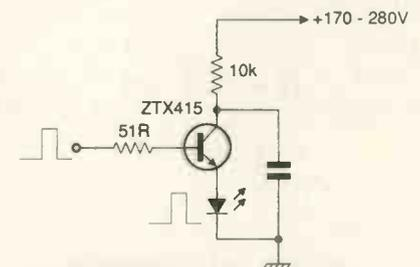

Fig. 2. Simple high current avalanche pulse generator circuit, driving a laser diode.
Change to the correct 'remote' directory, capture the screen or print this directory for later use, transfer the appropriate text files, save to disk and log-off, Figs 2 and 3.
**Fig. 2. Logged-on to 'ftp.netcom.com' with remote directory changed to '/pub/mi/microsim'. Change the remote directory by entering '/pub/mi/microsim' into current directory box. Now ready to transfer the highlighted remote file '62pdlb.zip' into the directory. Note the system has been set to binary transfer mode. To initiate transfer, click on 'QuickTrans'.**
Figure 2 shows a simple high-current avalanche pulse generator, providing positive going pulses to drive a laser diode. Peak current is determined by the effective resistance of the transistor in avalanche breakdown plus the slope resistance of the diode.
Having obtained samples of the ZTX415, I decided to investigate the performance in a variant of Fig. 2. This variant provides negative-going pulses, but substitutes a resistive load for the diode to allow quantitative measurements to be recorded.
Drop in collector voltage can be seen to be almost the full 250V of the supply, Fig. 4 b), lower trace. However, the peak voltage across the load resistor – upper trace – is only around -180V. This circuit provides a negative-going output, unlike that of Fig. 2.
In Fig. 2, though, the laser diode slope resistance would probably be less than 25Ω, resulting in a higher peak current, and an increased fraction of the energy lost in the transistor.
The shape of the output pulse from circuits such as Figs 2 and 4a), a step function followed immediately by an exponential decay, is not ideal: for many applications, a square pulse would be preferred. This is simply
Fig. 2. Typical operating circuit for fast-charge controller. This circuit benefits from a 22kΩ resistor between BATT- and TEMP and 68k between VLIMIT/REF and TEMP. A 10nF capacitor over R2 may also be necessary.
The ICs are inactive with the wall cube unplugged, Fig. 2, drawing a maximum of 5µA from the battery. Diode  $D_1$  prevents the collector-base junction of  $Tr_1$  from conducting